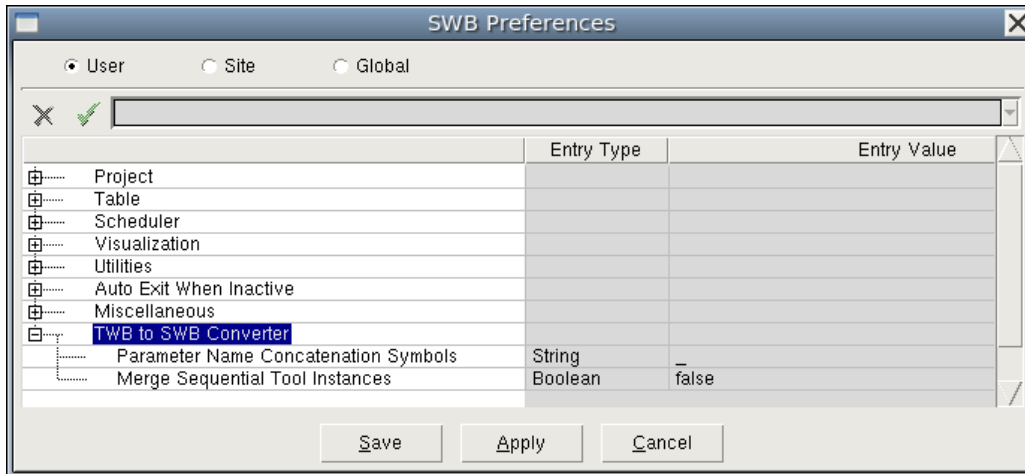

Figure 82 Specifying a new default symbol when converting parameter names
2. Expand **TWB to SWB Converter** and change the symbol for **Parameter Name Concatenation Symbols** (see Figure 82).